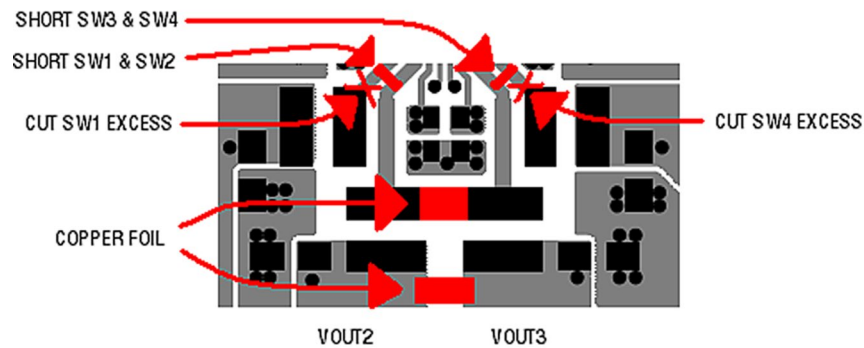

Figure 7. Copper foil between L2 and L3, Modified SW1 & SW4 Traces
2. Add copper foil between the L2 and L3 SW node pads. Refer to Figure 7 for steps 2 thru 5.